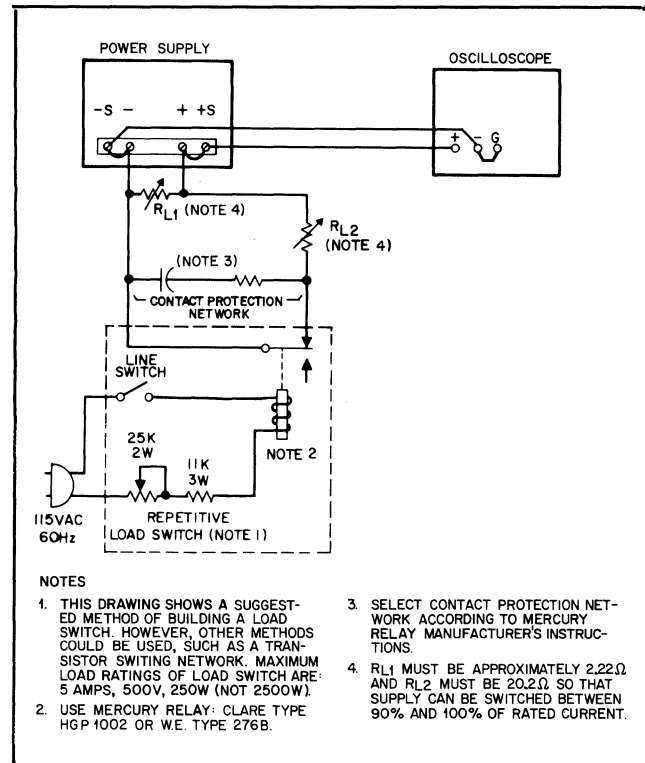

Figure 5-5. Load Transient Recovery Time Test Setup
5-33 We suggest that a mercury-wetted relay connected in the load switching circuit shown in Figure 5-5 be used for loading and unloading the supply. When this load switch is connected to a 60Hz ac input, the mercury-wetted relay opens and closes 60 times per second. The 25k control adjusts the duty cycle of the load current switching to reduce jitter in the oscilloscope display. This relay may also be used with a 50Hz ac input.
- Connect load resistor R_{L1} (Figure 5-5) across output of supply. Do not connect R_{L2} and load switch at this time.
- Turn off supply and connect load switch and load resistors as indicated in Figure 5-5.